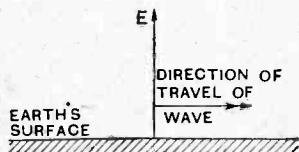
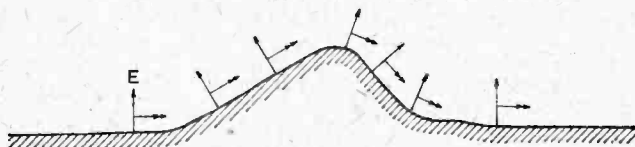
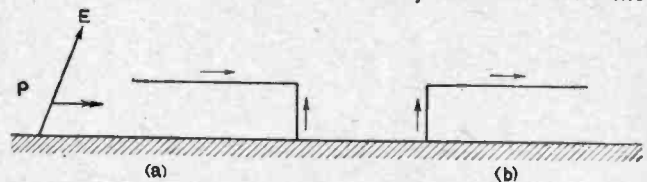

Fig. 1.—Direction of the electric field of force *E* in a wireless wave travelling horizontally over a perfectly conducting earth.
Fig. 2.—When the slope is not too abrupt the direction of travel of a wireless wave follows the contour of the ground.
Fig. 5.—E.M.F.s induced in two inverted L aerials by the vertical and horizontal components of the electric force in the wave approaching from P.
Let us take first the case of getting the maximum E.M.F. into the aerial. In an elementary study of the travel of wireless waves over the earth's surface, the earth is usually assumed to be a perfect conductor, and one is informed that the electric lines of force must always be perpendicular to such a conductor. Therefore, the wireless waves are represented as travelling horizontally along the earth with the electric force perpendicular to it; and for open ground, which is sensibly horizontal, the state of affairs is as represented in Fig. 1. Where the ground is not flat, but is subject to the undulations of hilly country, the above boundary condition must still obtain. Thus for a hill or mountain of moderately gentle slope, the manner in which a wireless wave surmounts it is shown in Fig. 2. If the change in slope is very abrupt, as in the case of a precipice, the state of affairs is not quite so straightforward as that represented, and other secondary effects must be taken into consideration.
these experiments some measurements were carried out on the side of a hill sloping at 16° to the horizontal, and it was verified that the waves were travelling sensibly in the manner depicted in Fig. 2. It is evident from these results that in order to get the maximum E.M.F. induced in an aerial on wavelengths in or above the normal broadcasting band the major portion of the aerial should be arranged to be as far as possible vertical; or rather, perpendicular to the average direction of the ground in the immediate neighbourhood. The slope of the wavefront of 3° above mentioned may be interpreted in another way as indicating that the strength of the horizontal component of the electric force is only about five per cent. of the strength of the vertical component. Hence if a given length of wire be arranged first vertically and then horizontally, the E.M.F. induced therein will be twenty times as great in the first case as it will in the second. There is an important difference between the two cases, however, for with the vertical wire the E.M.F. is the same for all directions of arrival of the wave, whereas with the horizontal wire the E.M.F. varies with the direction of arrival of the waves. This effect can probably be best understood by supposing the vertical and horizontal wires joined together to form an inverted L aerial as in Fig. 5. A little consideration of the case when waves are arriving from the left-hand side (P) will show that the E.M.F.s induced in the two portions of the aerial depicted in Fig. 5 (a) will be in opposition as indicated by the arrows; while with the aerial reversed as in Fig. 5 (b) the two E.M.F.s are assisting each other. If the two aerials are rotated through a right-angle so that the horizontal portions are perpendicular to the direction of arrival of the waves, no E.M.F.s will be induced in these portions, and the vertical parts of the aerial will alone be operative in receiving an E.M.F. from the waves.
These considerations taken in conjunction with the numerical results quoted above indicate that an inverted L aerial can have appreciable directional receiving properties only when the wavelength is moderately short and when the horizontal length of the aerial is several times its vertical height. The directional effect is not quite proportional to the ratio of the E.M.F.s induced in the two portions of the aerial, owing to the fact that the more distant parts of the aerial are less effective in producing current through the receiver, which is assumed to be located near the earth connection. In some direct measurements which have been made of the relative currents obtained in inverted L aerials oriented in different directions with respect to the transmitter, it was shown that with an aerial 20ft. high and of 80ft. horizontal length used on a wavelength of 365 metres, the difference in current received by the aerial in its worst and best positions (*i.e.*, as indicated in Fig. 5 (a) and (b) respectively) was about twenty per cent. of the mean current. The most favourable position was, of course, that in which the free end of the aerial pointed away from the transmitting station. In considering the importance of the directional effect in this case, which is one that might easily arise in a broadcast receiving aerial, it is to be noted that the same increase in current could have been